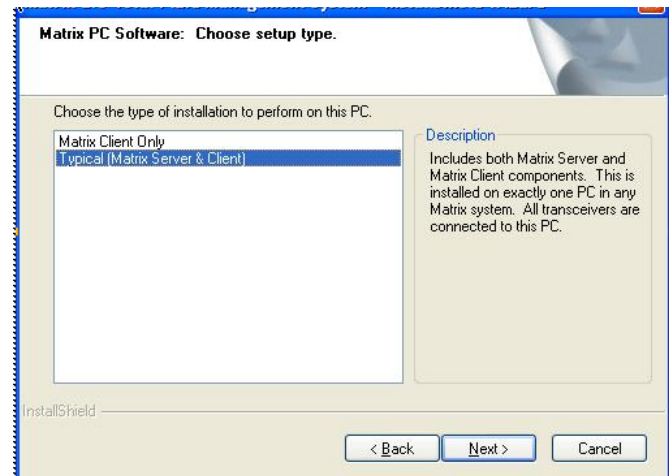

FIG. 14 Setup Path 1 - Choose Setup Type
- The default setup type is shown selected: **Typical (Matrix Server & Client)** (FIG. 14). Choose this setup type for either standalone Matrix PCs or for the Matrix Server in multiple-PC applications. Click **Next**.